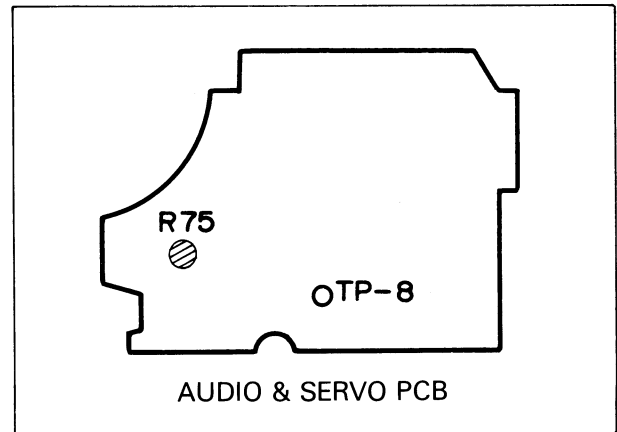

Fig. 5-10. Switching point adjustment
1. Connect the oscilloscope to TP-8 (Video in/out) on the Audio and Servo printed circuit board and play the alignment tape. (Refer to Fig. 5-10.)